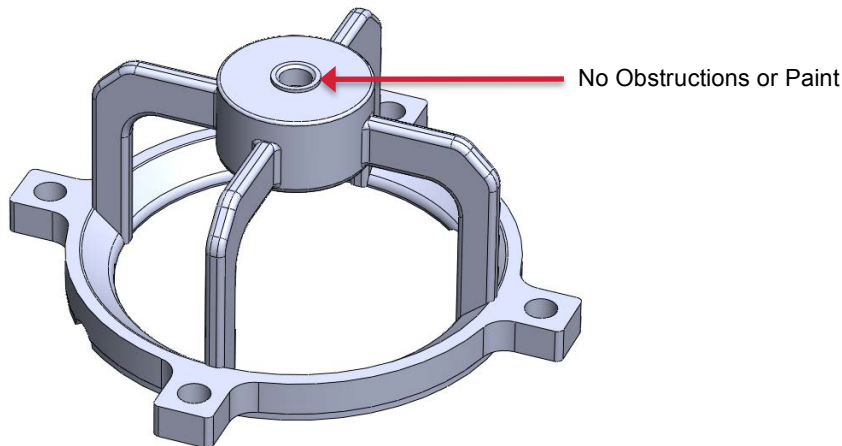

Figure 4-2 Top-Guide Discharge Area
- 4.1.1.1 The Top Guide (item 1) is principally a structural part. There should be no paint on the guide bushing of this part where the valve stem enters it, or between adjacent surfaces of the top guide and valve body. The area of discharge through the top guide (Figure 4-2) must be unobstructed by foreign matter that would hinder free flow of discharging fluid.